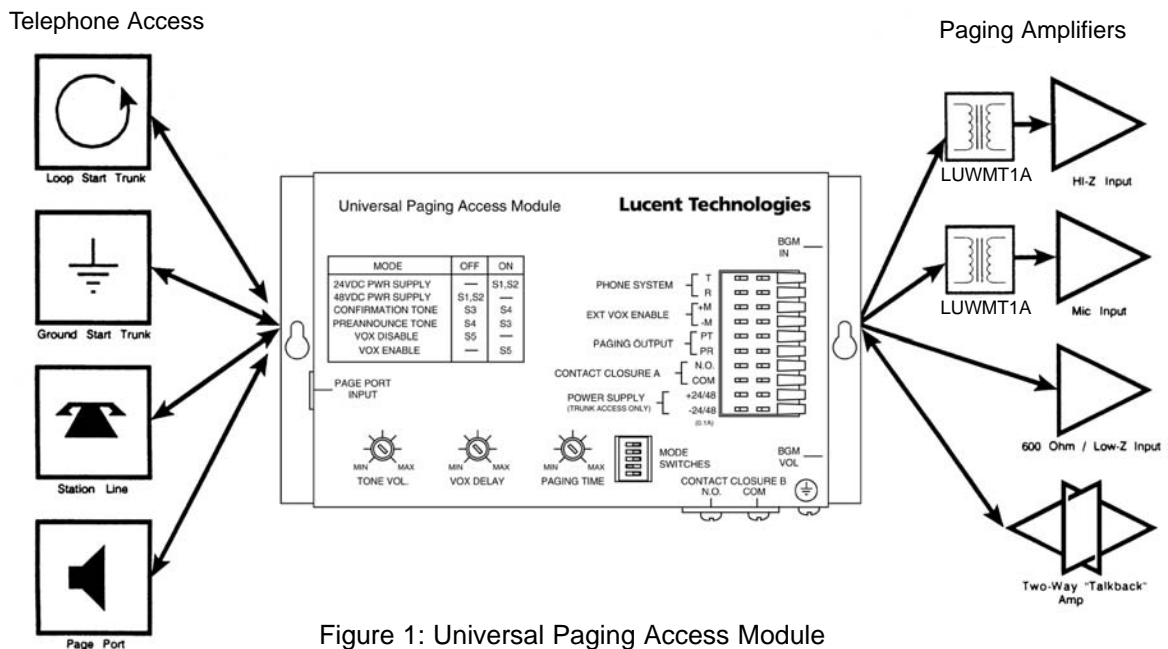

Figure 1: Universal Paging Access Module
The UPAM Universal Paging Access Module is designed to provide telephone access to most commonly available paging systems. It works with PBX loop, ground start trunk ports, and station ports and is compatible with the full range of currently available telephone equipment, i.e., PABX, stand-alone 1A2-Key, Electronic Key, Hybrid Electronic Key, or CO and Centrex. (see Figure 1)
- MODE Switches (on front of unit)** A set of 5 MODE switches (S1 through S5, see Figure 1 on page 5) is included to set the power supply voltage, confirmation or pre-announce tone, and VOX operation. These switches are accessible through an opening in the front cover and can be moved with a pointed tool, such as the tip of a ballpoint pen. Set the switches as described in the Specific Instructions (pages 9 - 18).